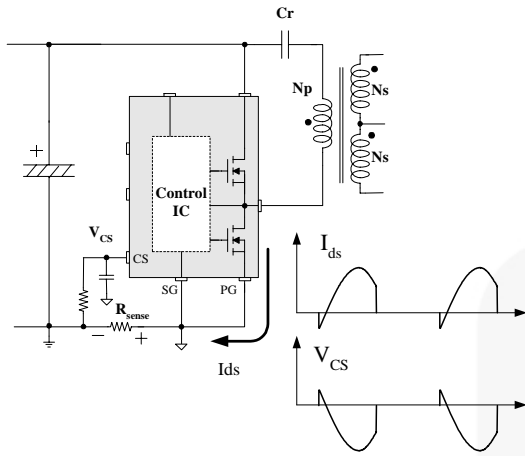
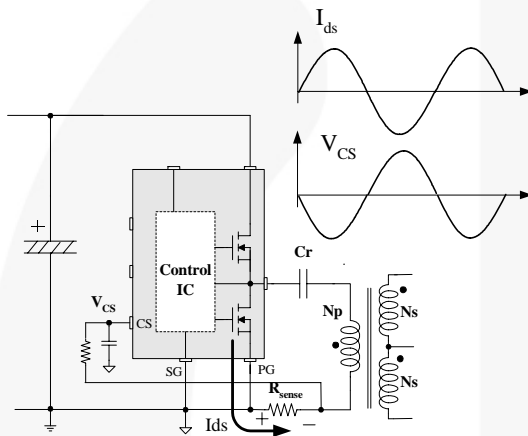

Figure 24. Half-Wave Sensing
Figure 25. Full-Wave Sensing
**Current Sensing Using Resistor:** FSFR-series senses drain current as a negative voltage, as shown in Figure 24 and Figure 25. Half-wave sensing allows low power dissipation in the sensing resistor, while full-wave sensing has less switching noise in the sensing signal.